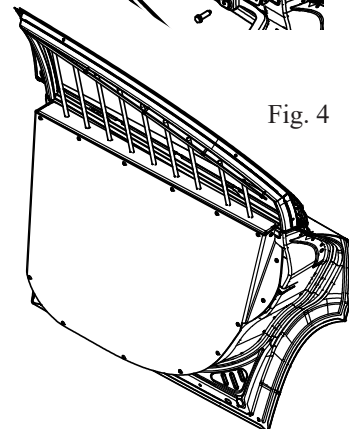

Fig. 4
- A. Slide the ABS door panel over the window armor, align front to back for best fit. (See Fig. 4)